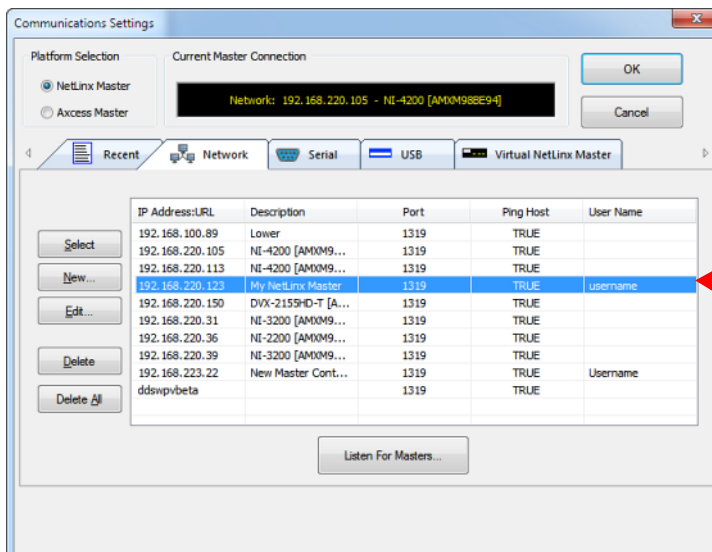

FIG. 22 NetLinX Studio - Communication Settings dialog
7. Click **OK** to close the *New TCP/IP Settings* dialog and return to the *Communication Settings* dialog: (FIG. 22).